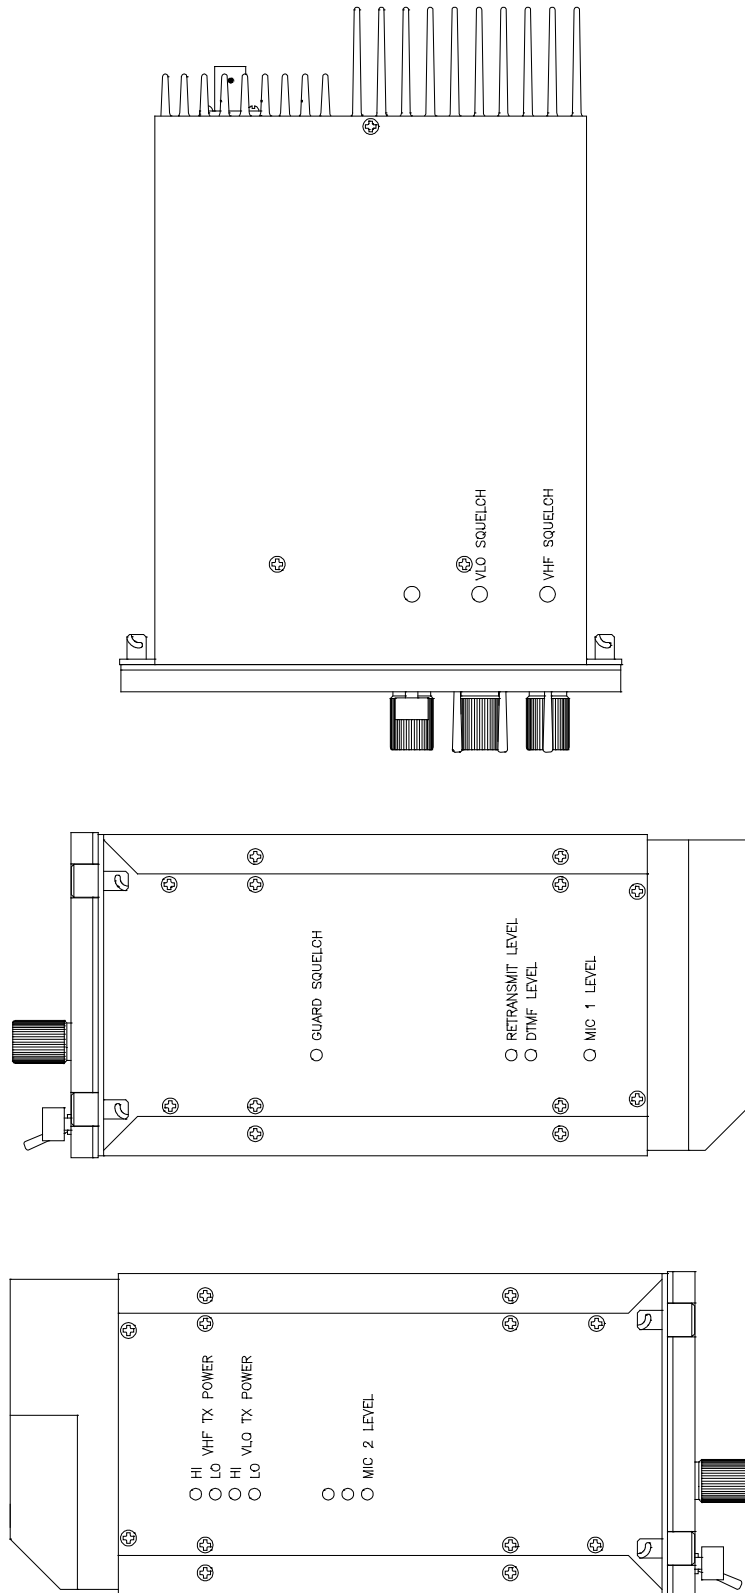

FIGURE 3.4 External Adjustment Access Holes
3. Adjust the microphone level potentiometer (Mic Level 1) through the access hole located on the right side of the chassis (see Figure 3-4) to produce a 2.7 kHz deviation.
3. If not, re-adjust receiver squelch potentiometer through the access hole located on the bottom or side of the transceiver chassis (see Figure 3-4).